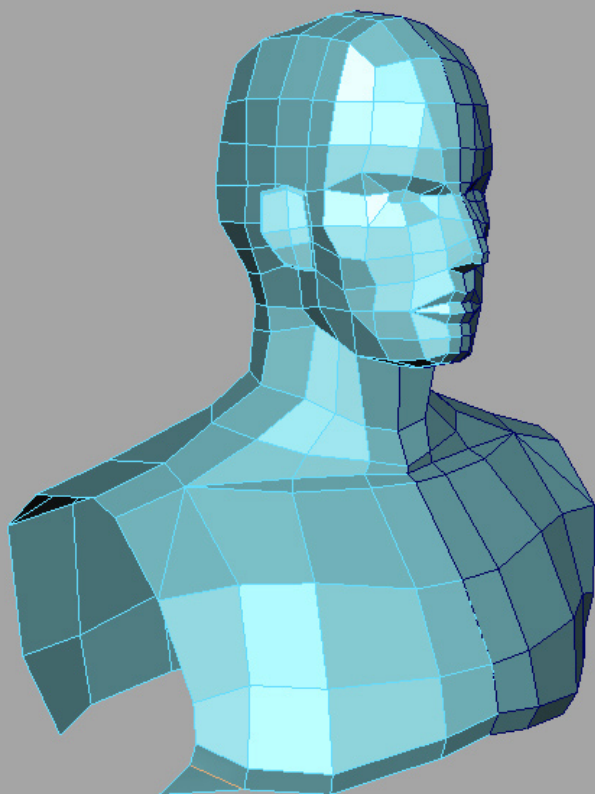

Fig 08
8. Getting back on the chest, select the lower edges again and extrude them once. Push them inside a little bit in order to form the lower part of the chest. Note that we've added one more edge on the corner in order to connect the arm later "Fig08".